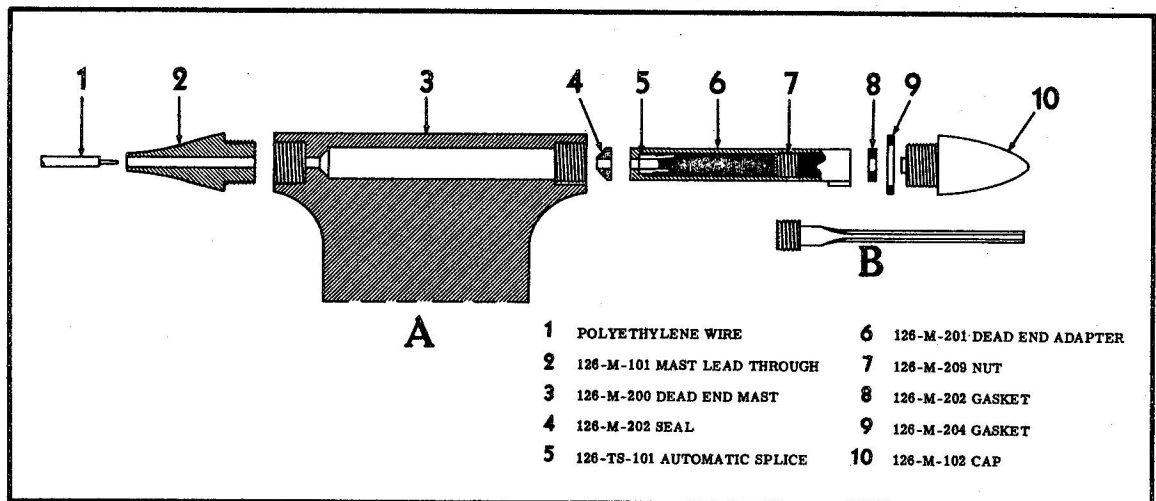

Figure 11 Anstat Dead End Mast M-200
28 The purpose of this antenna mast assembly, see Figure 11, is to terminate the polyethylene insulated wire in a connector assembly which may also be used as a take-up device for adjusting the wire to the proper amount of tension. It is important that the instructions be followed very closely so that the metallic sections of the assembly will be insulated from the outside electrical effects and will give the equivalent insulating properties of the insulated polyethylene antenna wire.
29 To assemble antenna mast, proceed as follows, see Figure 11:-
- 30 To remove the antenna wire proceed as follows:- See Figure 11.
- (a) Cut polyethylene wire (1) about 6" from mast (3).
- (b) Remove cap (10) and rubber seals (8) and (9).
- (c) Remove rubber lead-through sleeve (2).
- (d) Push wire (1) through the mast (3) so that dead end adapter (6) and rubber seal (4) are ejected.
- (e) Insert screwdriver in slot (7) and turn screw clockwise as far as it will go.
- (g) Slide wire release tool over the bare wire until it engages jaws (5) within the connector. If necessary, tap on tool to release, jaws.